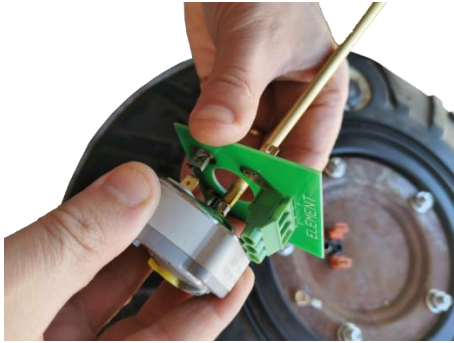

Figure 4.7 Thermostat plugged into element adapter
- d. Plug the thermostat into the element adapter as per Figure 4.7, ensuring a snug fit. Check that spade terminals enter female terminals correctly.